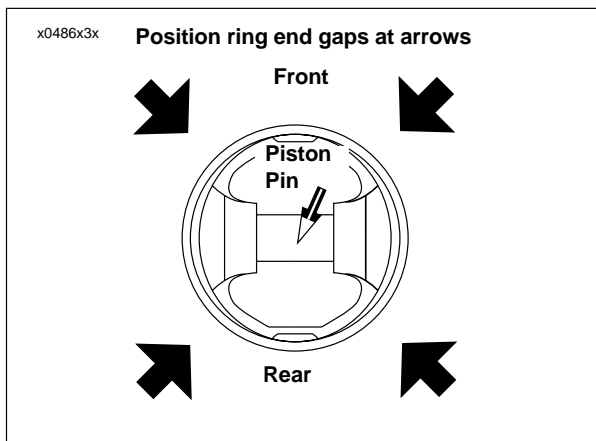

**Figure 3-95. Measuring Ring Clearance in Groove**
- See Figure 3-95. Check for proper side clearance with thickness gauge, as shown. See 3.1 SPECIFICATIONS.